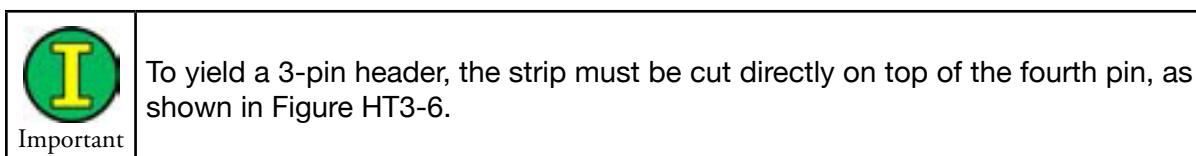

Figure HT3-6. Location to cut female header strip
4. Locate a strip of female headers used for parts J1, J2, J3, and J4. Use a pair of strong wire cutters to cut four 3-pin headers from this strip, as shown in Figure HT3-6. These become parts J1, J2, J3, and J4.